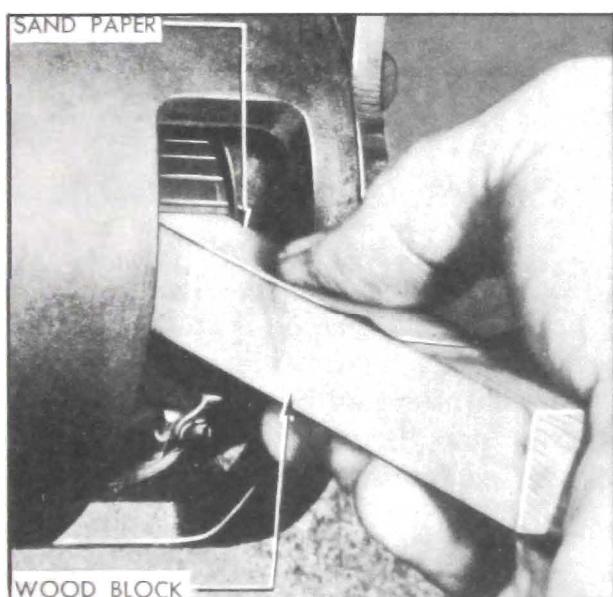

Figure 10-17—Cleaning Generator Commutator
4. If commutator and brushes are in good condition but dirty, they can be cleaned without removal of generator. Clean off any grease with a cloth soaked with carbon tetrachloride or other non-inflammable solvent. While engine is running, polish commutator with a brush seating stone or with a strip of 2/0 sandpaper placed over a wooden block having a smooth square end. See figure 10-17. *Never use emery cloth, because it will cause arcing, burning and rapid wear of commutator and brushes.* After cleaning commutator blow out all dust from generator.